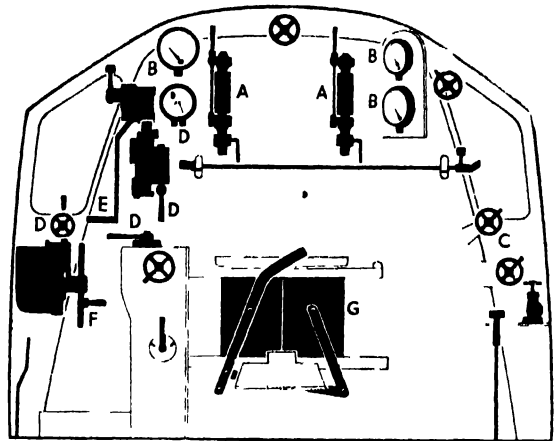

FIG. 2. FITTINGS IN A BRITISH RAILWAYS LOCOMOTIVE CAB
Fittings in the driver's cab (see Fig. 2) include water gauges (A), to show the level of the water in the boiler; steam-pressure gauges (B); controls for the injectors (C) by which the boiler is supplied with additional water; controls for the BRAKES (D, (q.v.)); in addition to the driver's regulator handle (E) and reversing gear (F). There is also the fire-hole door (G), through which the firing is done by the fireman.